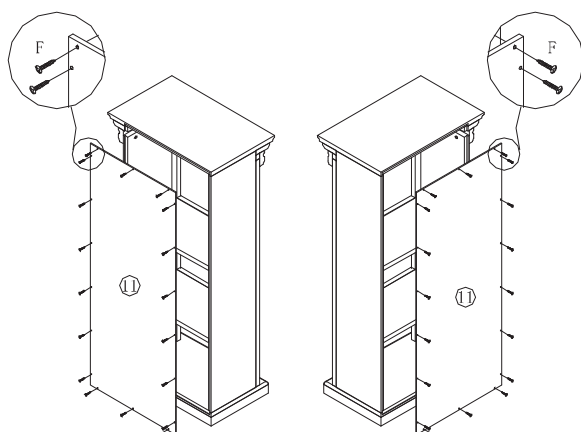

Figure 5
ATTACH THE BACK PANELS (11) ONTO THE UNITS BY USING 36PCS WOOD SCREWS (G) AS FIGURE 5 SHOWN.